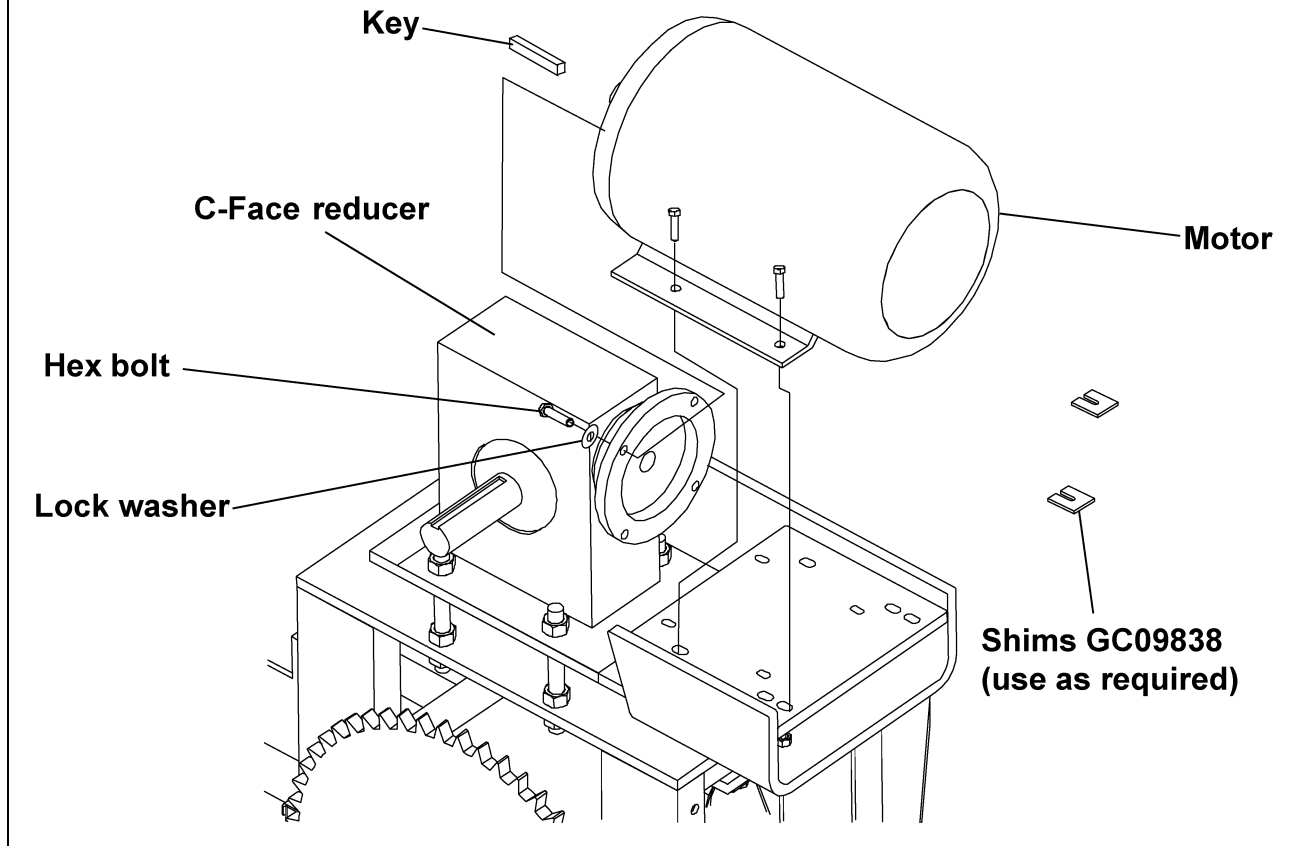

Figure 5X
A. Bolt the C-Face motor to the reducer using hex bolts, lock washers and a key. (See Figure 5X on Page 38.) (See the note on Page 38 for bolt size.)
- Assemble the Bottom Chain Guard Trap to the Bottom Chain Guard Weldment using 1/2" x 3" HHCS bolts, 1/2" split lock washers and 1/2" hex nuts. (See Figure 5X.)